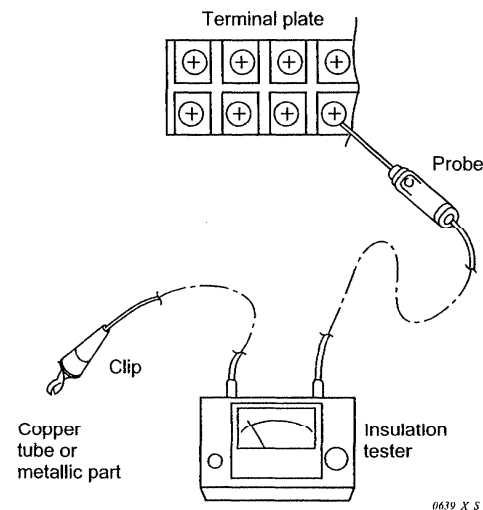
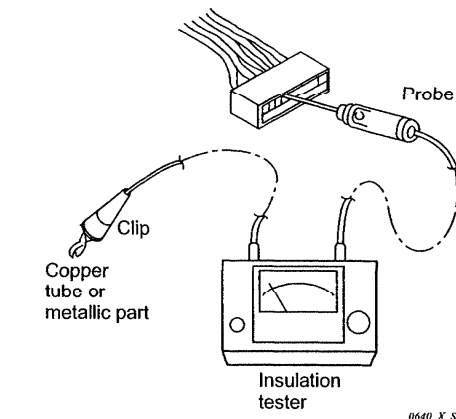

Fig. 17
Fig. 18
Clamp an aluminum plate fin or copper tube with the lead clip of the insulation resistance tester and measure the resistance by placing a probe on the terminal plate (Fig. 17)
③ Outdoor Unit
Measure the resistance by placing a probe on the terminal plate in the same manner as explained above ②. (Fig. 17)
④ Measurement of Insulation Resistance for Electrical parts
- Disconnect the connector of the desired electric part from terminal plate, P.C.B. Ass'y, etc. (Fig. 18)